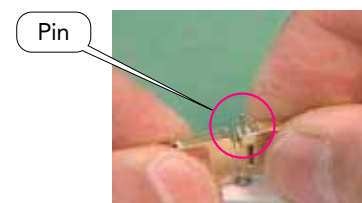

Fig.13
- 2) The pin is pushed out the opposite side. (Fig.13)